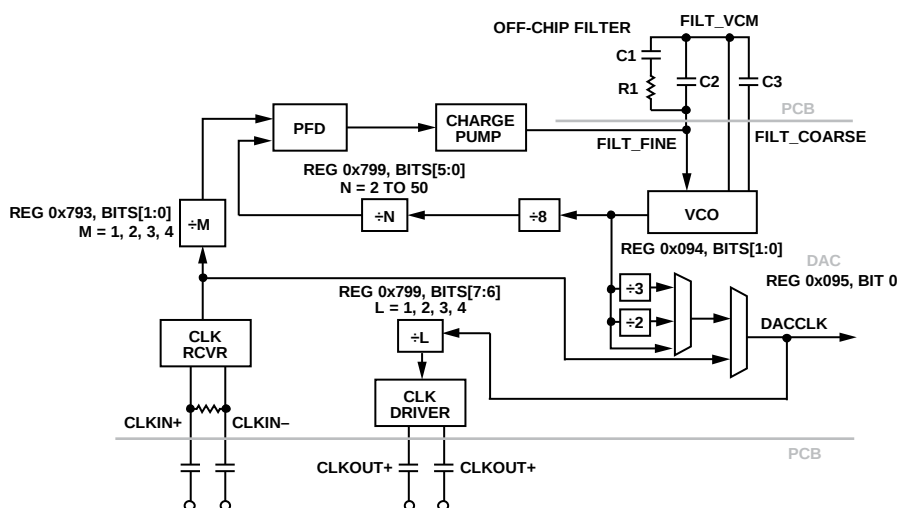

Figure 92. DAC PLL and Clock Path Block Diagram
The AD9175 includes an integer PLL/VCO block that allows generating a DAC clock (f_{DAC}) from an external reference frequency (f_{REF}) between 25 MHz and 3080 MHz, applied to the $CLKIN_{\pm}$ pins (see Figure 92). When using the on-chip PLL, select the predivider (M) via Register 0x793, Bits [1:0] to internally divide the reference frequency to be within the range of 25 MHz to 770 MHz of the phase frequency detector (PFD) circuitry block input. Enable the DAC PLL synthesizer by setting Register 0x095, Bit 0 to 0.
To generate the required VCO control voltage from the charge pump (CP) output, the AD9175 DAC PLL requires an external loop filter. The recommended filter is a passive low-pass filter of a topology similar to the one shown in Figure 92. Generally, the pass band width of the filter (bandwidth) trades off loop response time during a frequency change with loop stability after the initial frequency lock occurs. For proper filter layout and component selection, which results in optimal performance for most applications, refer to the documentation of the AD9175-FMC-EBZ evaluation board. The user may however customize the filter to fit a specific application, according to the PFD